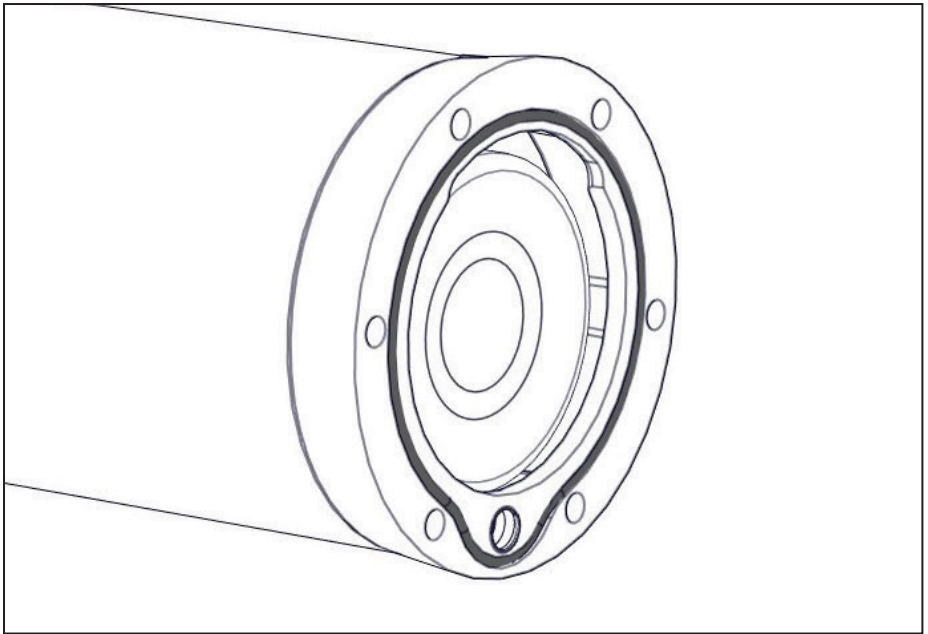

Figure 32 — Blowdown cap O-ring
- ☐ Install the blowdown cap Viton O-ring in the AOST (Figure 32).